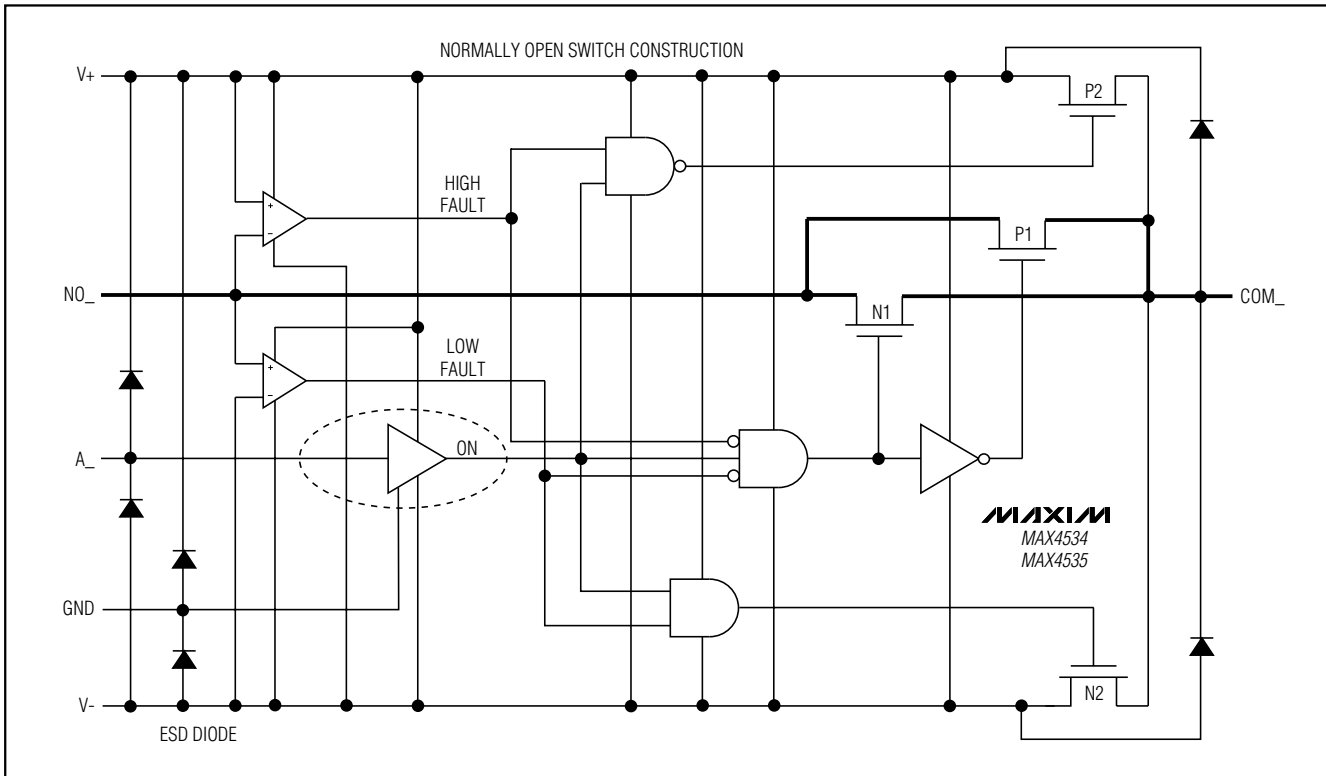

Figure 1. Functional Diagram
Figure 1 shows the internal construction, with the analog signal paths shown in bold. A single, normally open (NO) switch is shown. The analog switch is formed by the parallel combination of N-channel FET N1 and P-channel FET P1, which are driven on and off simultaneously, according to the input fault condition and the logic level state.
off in response to A₋ signals (Figure 1). The parallel combination of N1 and P1 forms a low-value resistor between NO₋ and COM₋ so that signals pass equally well in either direction.
When the signal on NO₋ exceeds V₊ by about 150mV, the positive fault comparator output goes high, turning off FETs N1 and P1 (Figure 1). This makes the NO₋ pin high impedance regardless of the switch state. If the switch state is "off," all FETs turn off, and both NO₋ and COM₋ are high impedance. If the switch state is "on," FET P2 turns on, clamping COM₋ to V₊.
When the signal on NO₋ goes about 150mV below V₋, the negative fault comparator output goes high, turning off FETs N1 and P1 (Figure 1). This makes the NO₋ pin high impedance regardless of the switch state. If the switch state is "off," all FETs turn off, and both NO₋ and COM₋ are high impedance. If the switch state is "on," FET N2 turns on, clamping COM₋ to V₋.
FETs N2 and P2 can source about ±10mA from V₊ or V₋ to the COM_n pin in the fault condition (Figure 1). Ensure that if the COM_n pin is connected to a low-impedance load, the 30mA absolute maximum current rating is never exceeded, both in normal and fault conditions.